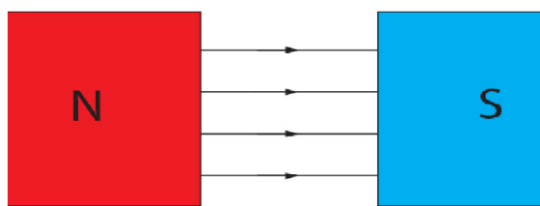
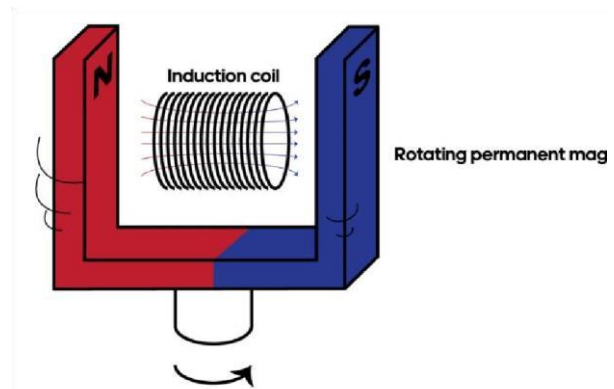

Fig. 1
Fig. 2
- Magnetic field is existed between two pieces of magnet. Magnetic field lines are a visual tool used to represent the magnetic fields. It always runs from North to South (as shown in Fig. 1). When a coil (or conducting surface) is inserted into the magnetic field, magnetic flux will be generated. By definition, magnetic flux through a surface is the surface integral of the normal component of the magnetic field over that surface. In this experiment, the configuration of the magnet and coil is shown in Fig. 2.
- The magnitude of the induced emf varies with the cutting angle between the coil and the magnetic field lines. For example, when the coil is parallel to the magnetic field lines (as shown in Fig. 2). The magnetic flux is maximum and the rate of change of the magnetic flux momentarily will be zero. Thus, the induced emf at this position = 0.